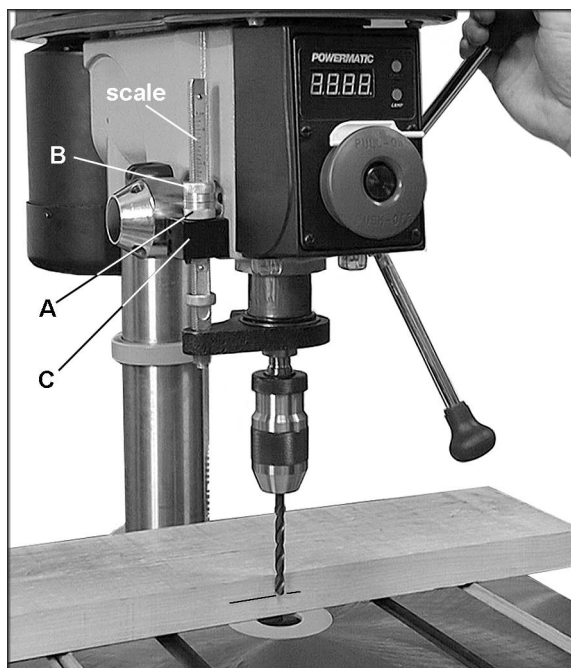

Figure 18
2. Rotate the bottom nut (A, Figure 18) to this measurement on the accompanying scale.
3. Bring the top nut (B, Figure 18) flush with the bottom nut. This will prevent any movement of the bottom nut as it contacts the seat (C, Figure 18).
Alternatively, for less precise drilling, you can lower the bit to the desired depth, as shown in Figure 18, and tighten both nuts (A and B) against the seat (C).